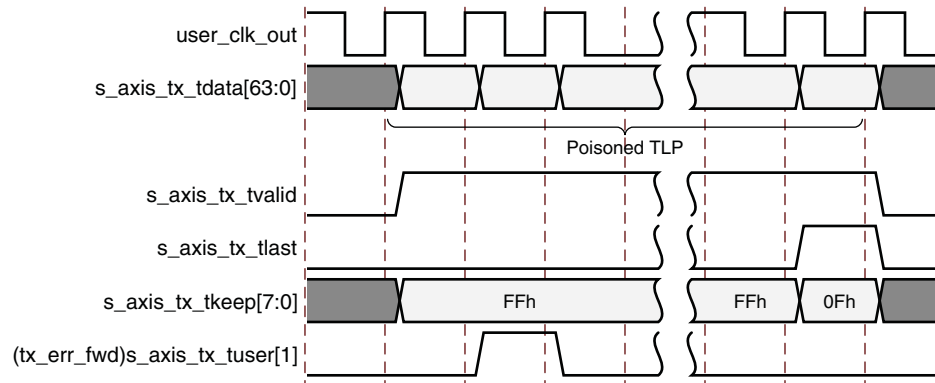

Figure 3-12: Packet Data Poisoning on the Transmit Interface
- Assert `s_axis_tx_tuser[1]` (`tx_err_fwd`) for at least one valid data transfer cycle any time during the packet transmission, as shown in Figure 3-12. This causes the core to set EP = 1 in the TLP header when it transmits the packet onto the PCI Express fabric. This mechanism can be used if the user application does not know whether a packet could be poisoned at the start of packet transmission. Use of `terr_fwd` is not supported for packets when `s_axis_tx_tuser[2]` (`tx_str`) is asserted (streamed transmit packets). In streaming mode, you can optionally discontinue the packet if it becomes corrupted. See Discontinuing Transmission of Transaction by Source for details on discontinuing packets.